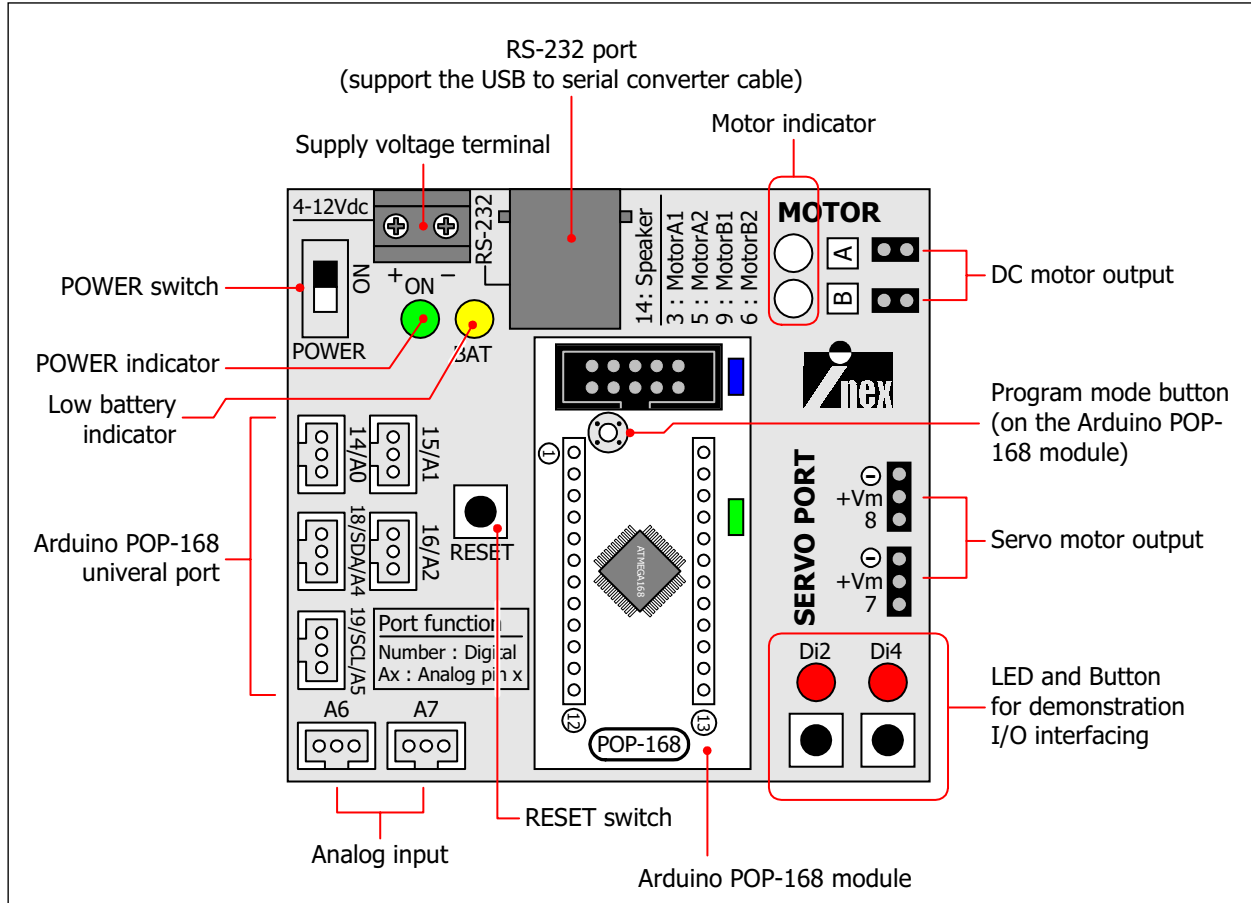

Figure 1-2 The layout of RBX-168 controller board
The RBX-168 Robot controller board is a complete, low-cost development platform designed for those interested in learning and using Arduino POP-168 module in robotic applications. Its compact size, convenient features, and low price make it an ideal tool for the student and educator. Figure 1-2 shows the layout of RBX-168 board and complete schematic diagram of its is shown in the figure 1-3. The summarized technical feature of the RBX-168 board is as follows :
- Piezo speaker connections (do not show in the figure 1-2; it is fixed at bottom circuit board of RBX-1689 board. It is connected with POP-168 An0/Di14 pin.